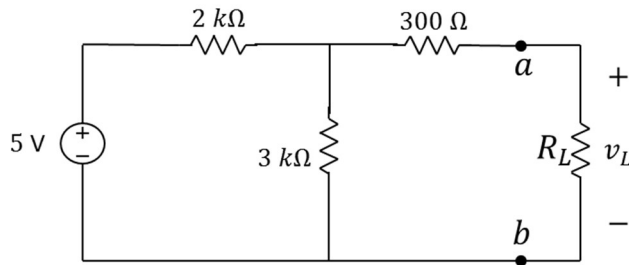
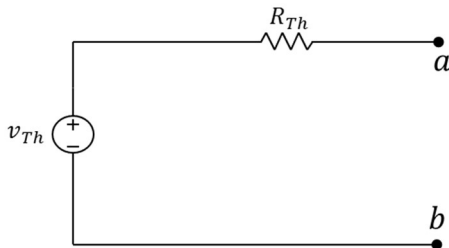

Figure 1. Original circuit.
Figure 2. Thevenin equivalent circuit.
Consider the circuit shown below in Figure 1. We will consider three values for the load resistor R_L . These values are $1.5\text{ k}\Omega$, $7.5\text{ k}\Omega$, and $200\text{ k}\Omega$.
a) Calculate v_L in Figure 1, for each of the three values for R_L . You may use any method you like, except for Thevenin/Norton or source transformations.
Now consider the circuit in Figure 1 from the point of view of R_L . That is, consider the circuit with respect to the terminals labeled a and b with the load resistor removed. We know from class that we can compute the Thevenin equivalent of this circuit as shown below in Figure 2.
c) Attach the three values for R_L (one at a time) in Figure 2, and calculate v_L for each.
Build the circuit of Figure 1. Leave the load resistor off. Use the DMM to measure v_{oc} and i_{sc} . Record these values in your data sheet. Remember, an ideal volt meter looks like a resistor with value $R = \infty$ (open circuit), while an ideal current meter looks like a resistor with value $R = 0$ (short circuit). While the DMM is not ideal, it is pretty good. Thus, you can connect it directly to terminals a and b to measure the relevant quantities. Use your measured values to compute R_{Th} . Think about Method 1. Record your calculated value of R_{Th} on your data sheet.
Build the circuit of Figure 2. Connect R_L having values $1.5\text{ k}\Omega$, $7.5\text{ k}\Omega$, and $200\text{ k}\Omega$ (one at a time). Use the DMM to measure the value of v_L for each value of R_L . Record these values on your data sheet.